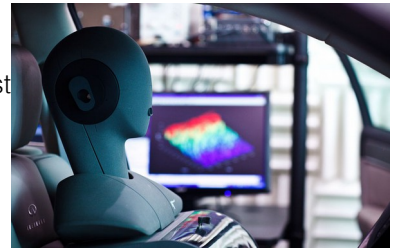

Abbildung 8
- Abbildung 8 https://assets.bose.com/content/dam/Bose_DAM/Web/consumer_electronics/global/content_pages/other_businesses/automotive/images/automotive_custom.psd/jcr:content/renditions/cq5dam.web.600.600.png